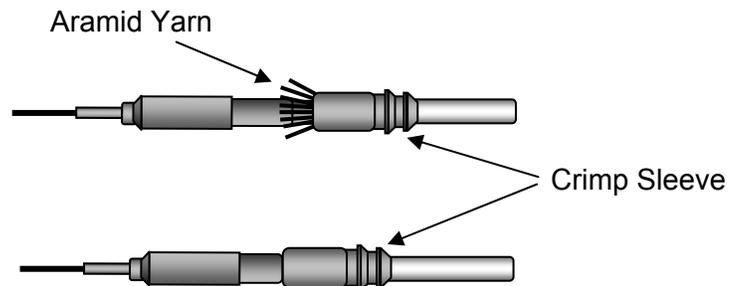

Figure 7-35 – Sliding up the Crimp Sleeve
Step 18 - Slide the crimp sleeve up to capture the aramid yarn around the rear of the terminus. See Figure 7-35.